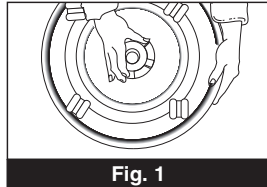

Fig. 1
Step 2: To open, gently place the air cleaner on its side and unscrew the locking mechanism located under the base assembly (Fig. 1).